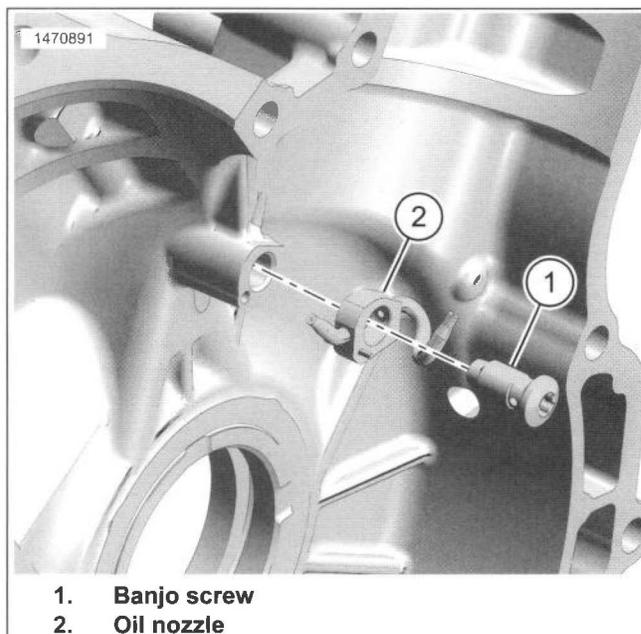
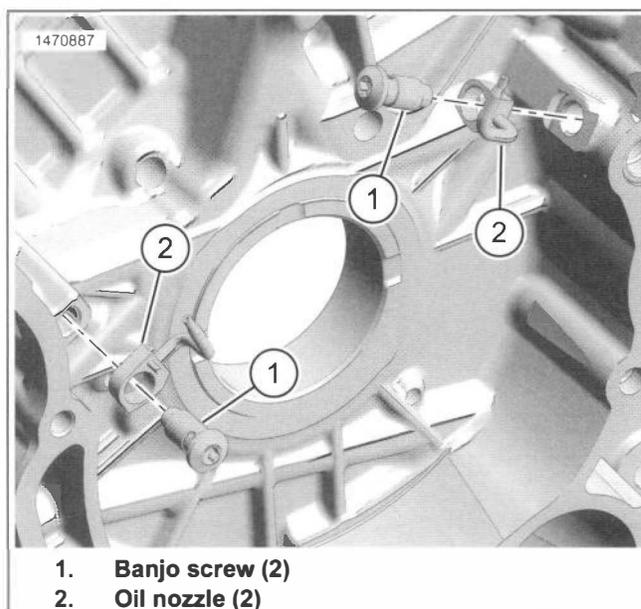

Figure 4-116. Left Crankcase Oil Nozzle
Figure 4-117. Right Crankcase Oil Nozzles
1. See Figure 4-116 or Figure 4-117. Remove banjo screw (1).
2. Remove oil nozzle (2).
1. See Figure 4-116 or Figure 4-117. Install oil nozzle (2).
2. Install banjo screw (1). Tighten.